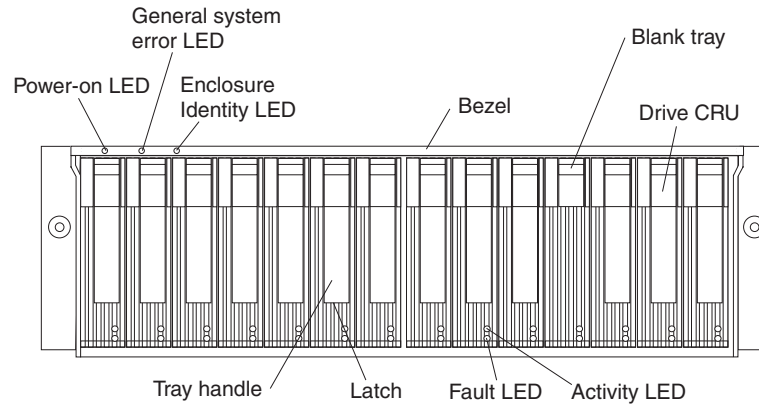

Figure 36. Hot-swap hard disk drive LEDs
2. Check for Fault LEDs shown in Figure 36. If any amber LEDs are lit, see Chapter 4, "Solving problems" on page 49.